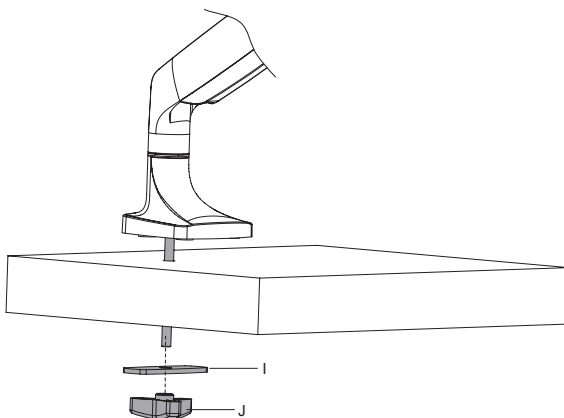

Figure 7
4. Position the Arm Assembly onto the desktop, secure it using the Grommet Clamp (I) and Wing Nut (J), see Figure 7. **Warning:** Carefully screw the Wing Nut to prevent cross-threading and damage to the grommet bolt.